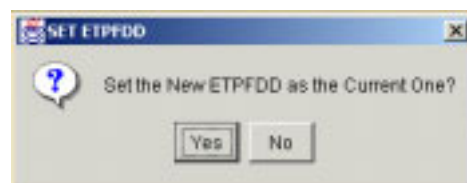

Figure 5.30 SET ETPFDD Window
9. On the Import B8 Log window, click OK. The Import B8 Log window closes and the SET ETPFDD window opens (Figure 5.30).